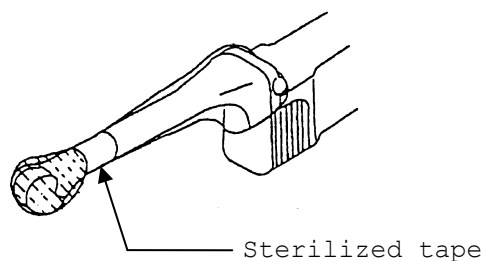

Fig.11
- 6) Fix jelly on the top of the probe with sterile adhesive tape. (See Fig.11.)